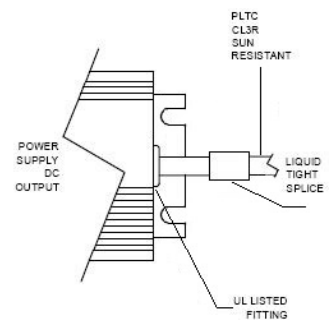

Fig3
- Output cord must be rated and marked PLTC or CL3R or “Sun Resistant”(Fig 3).